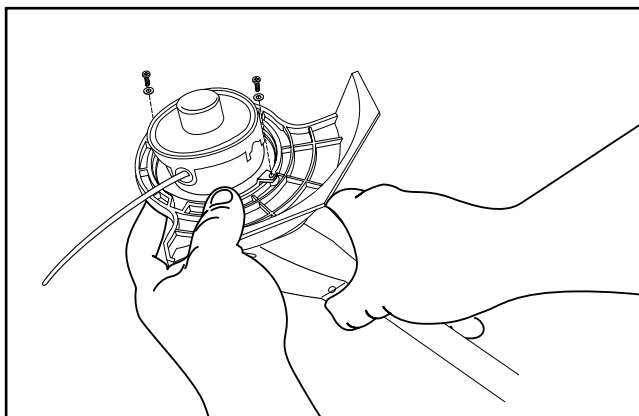

Fig. 6
3. Install the screws and washers with a screwdriver (Fig. 6).